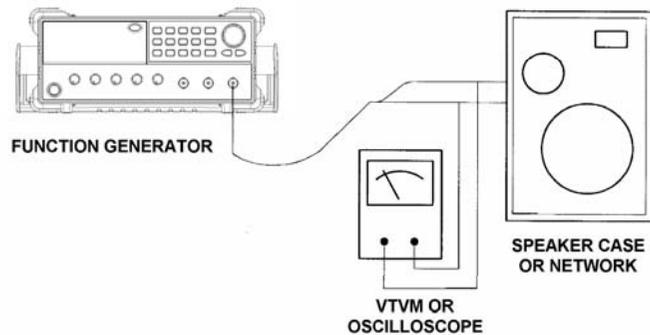

Figure 8
- (a) Connect the DUT (device under test) as figure 8 shows. Oscilloscope can be used as well as voltmeter.